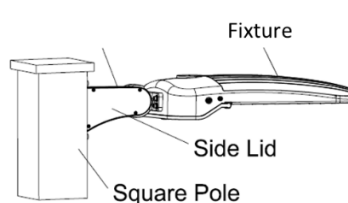

Figure 8
- e. Re-install the bracket's side cover plate and secure with the previously removed screws (Figure 8).